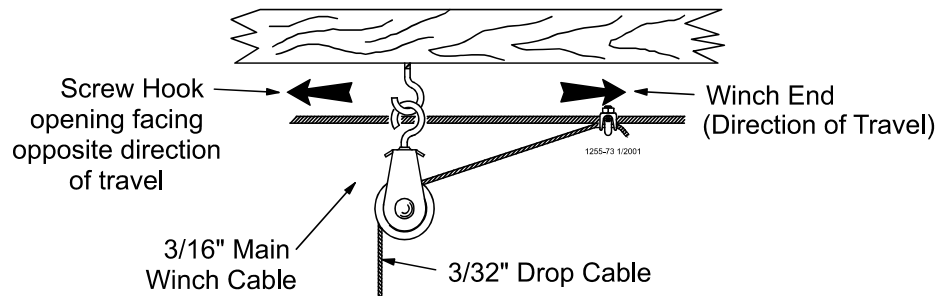

Figure 14. Screw Hook Installation
The openings of the screw hooks must be pointed away from the direction of travel when the Power Winch raises the feeder line. See **Figure 14**.
Refer to **page 12 Figure 14**.
2. Thread the end of the 3/32" or 1/8" cable through the pulley toward the winch. Clamp this end to the 3/16" winch cable about 6" [150 mm] from the last pulley, using a 3/16" cable clamp. See applicable figure; **Figure 14 or 20**.